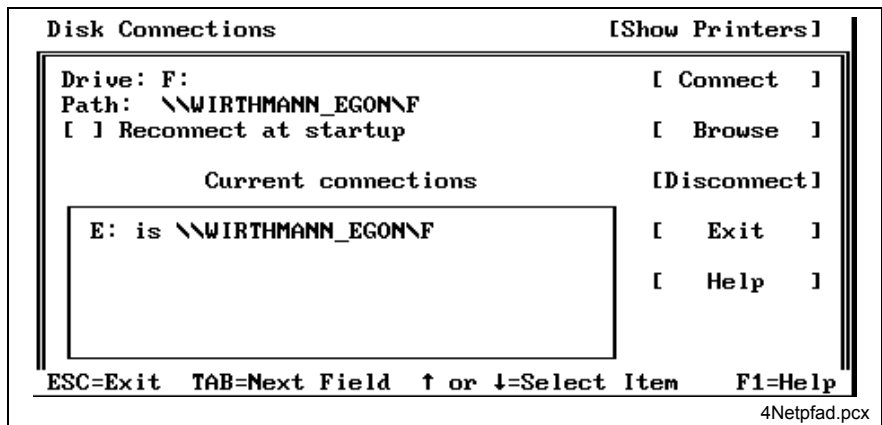

Fig. 9-29: Screen mask for network connection
- Fig. 9-29: Screen mask for network connection 9-21